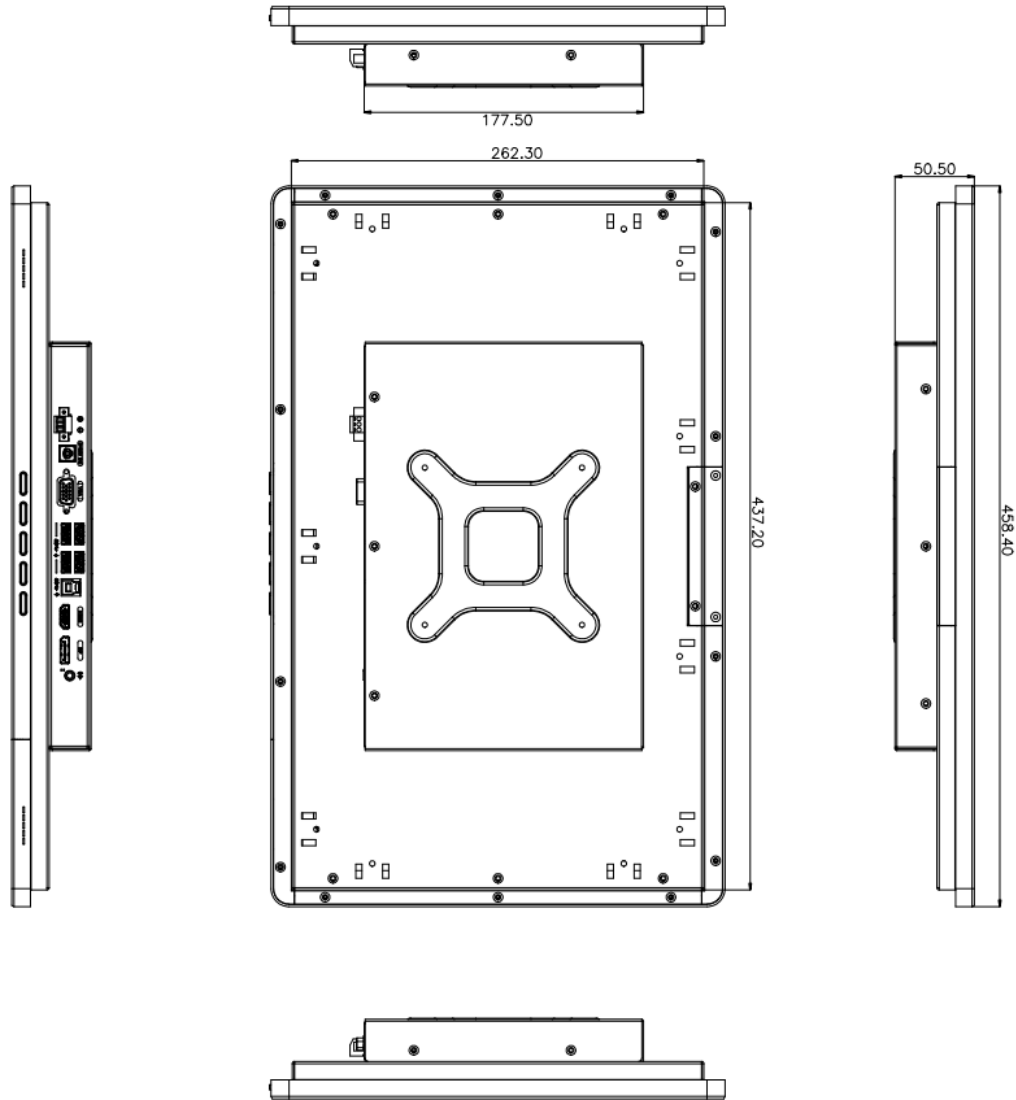

Figure 1-15: DM2-W185K(L) Physical Dimensions (Unit: mm)
1.9.9 DM2-W185K(L) Physical Dimensions
The physical dimensions of the DM2-W185K(L) are shown in the **Figure 1-15**.